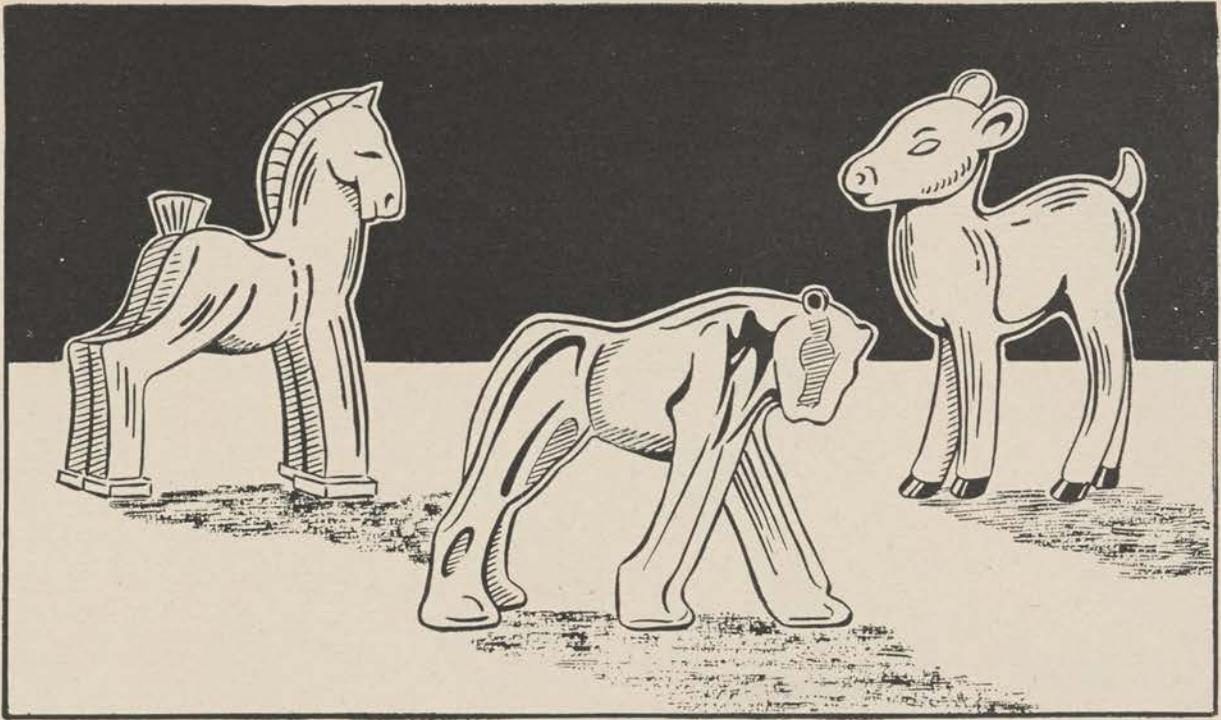

Figure 126.
b. Clay for figure modeling should be moist hard. The illustration shows a number of fairly simple figures which can be modeled by a beginner, but the range of subjects is limited only by your skill and imagination (fig. 126).